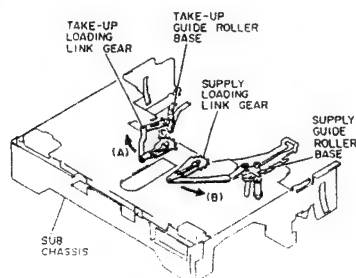

Fig. 2-57
- 1) Turn the take-up loading link gear in the direction of arrow (A) by 180°. (See Fig. 2-57)
- 1) Turn the supply loading link gear in the direction of arrow (B) by 180°. (See Fig. 2-57)
- 1) Remove the take-up guide roller base. (See Figs. 2-57, 2-58)
- 1) Remove the supply guide roller base. (See Figs. 2-57, 2-58)